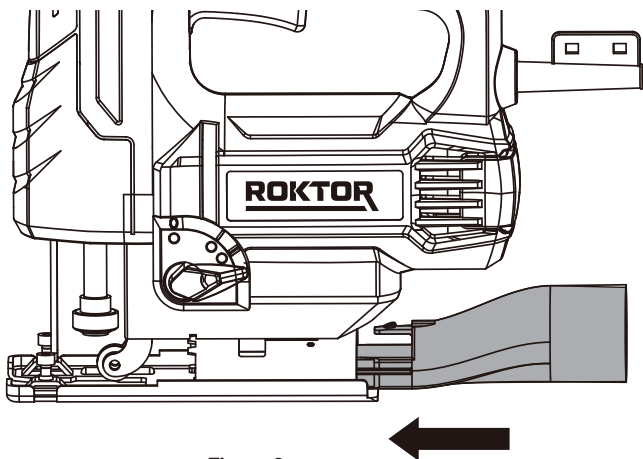

Figure 3
2. VACUUM ADAPTOR FITTING (SEE FIG. 3)